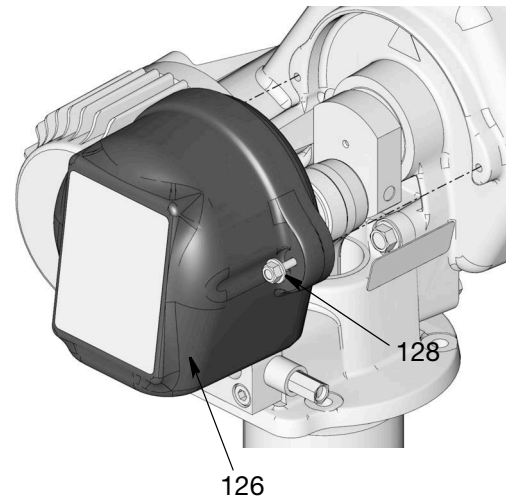

FIG. 19
5. Loosen the bolts (128) and remove the cover (126) from Dyna-Star pump (FIG. 19).